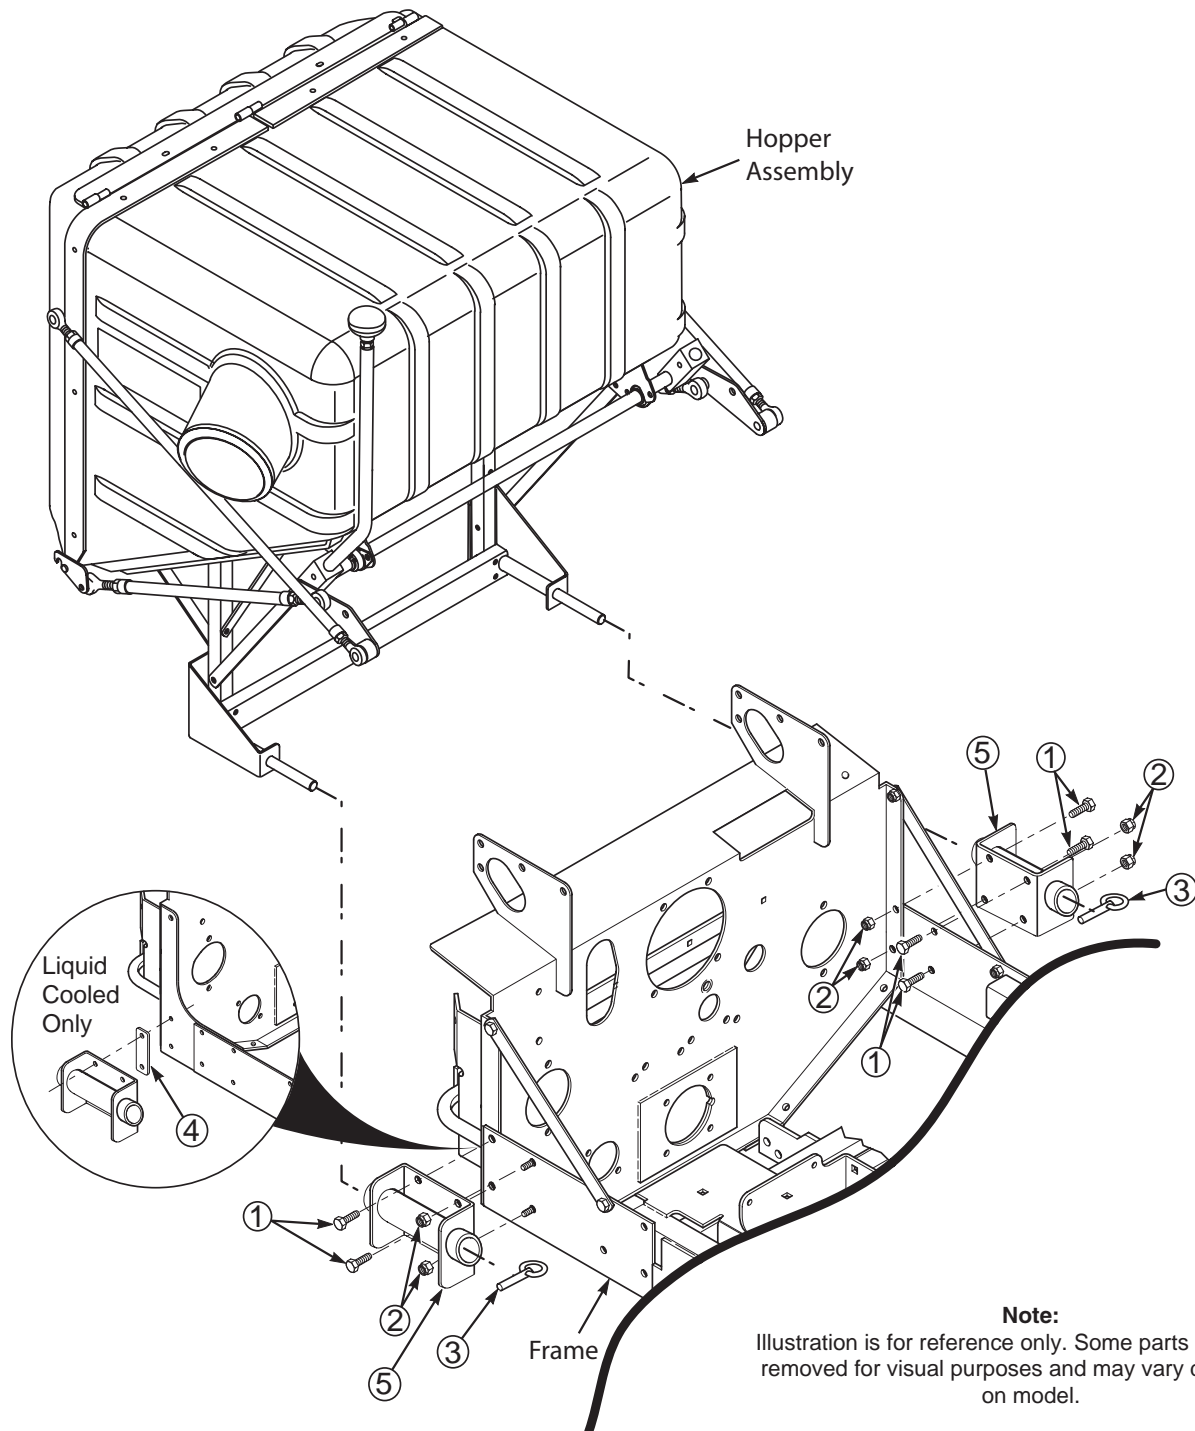

FIGURE 3-6
12. Install the hopper mounting brackets (p/n 451512 & p/n 451595) to the outside of the frame on the rear of the machine using 3/8-16 x 1" hex head bolts (p/n 04001-19) and 3/8-16 elastic stop nuts (p/n 04021-09). See Figure 3-6, Page 7.
14. With the help of an assistant, install the hopper assembly into the hopper mounting brackets. See Figure 3-6, Page 7.